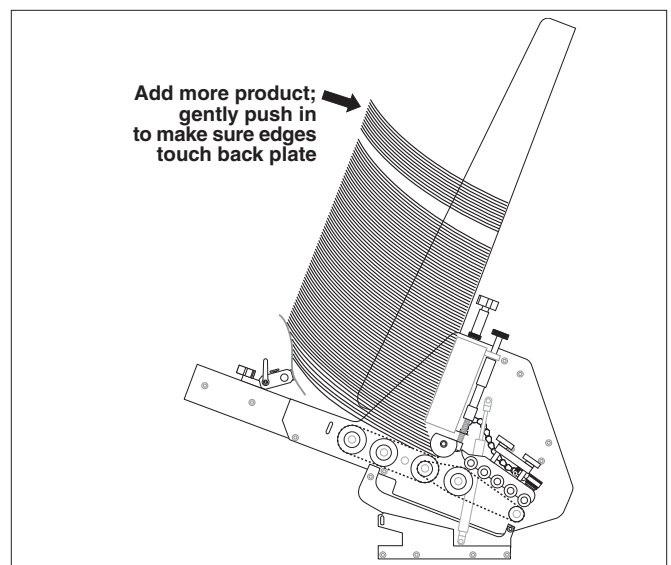

Figure 3-2. Adding More Product to Fill Hopper
3. Gradually add more product to the hopper. As stack height will have a preferred minimum and a maximum, you will have to experiment to determine the effective range of height (Figure 3-2).